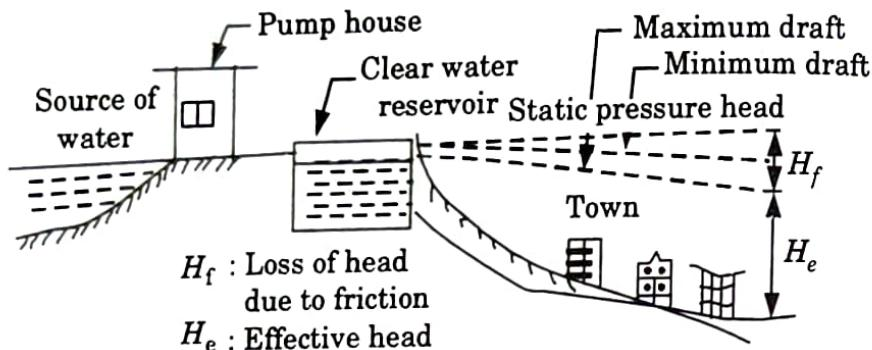

Fig. 2.4.1. Gravity system.
- As no pumping is required therefore, it is the most reliable system for the distribution of water as shown in Fig. 2.4.1.